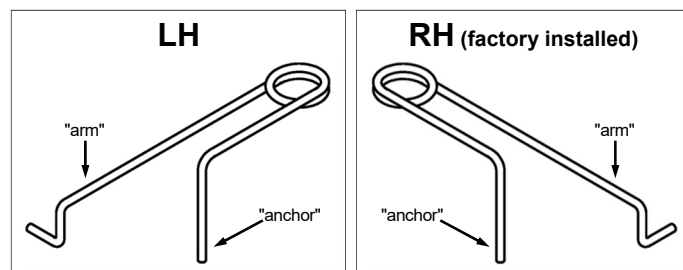

Fig. 2c: The RH spring is installed at the factory; the LH spring is supplied.
- 2c. There are two types of springs; an RH spring installed at the factory, and an LH spring (supplied). Select the LH spring (see Fig. 2c).